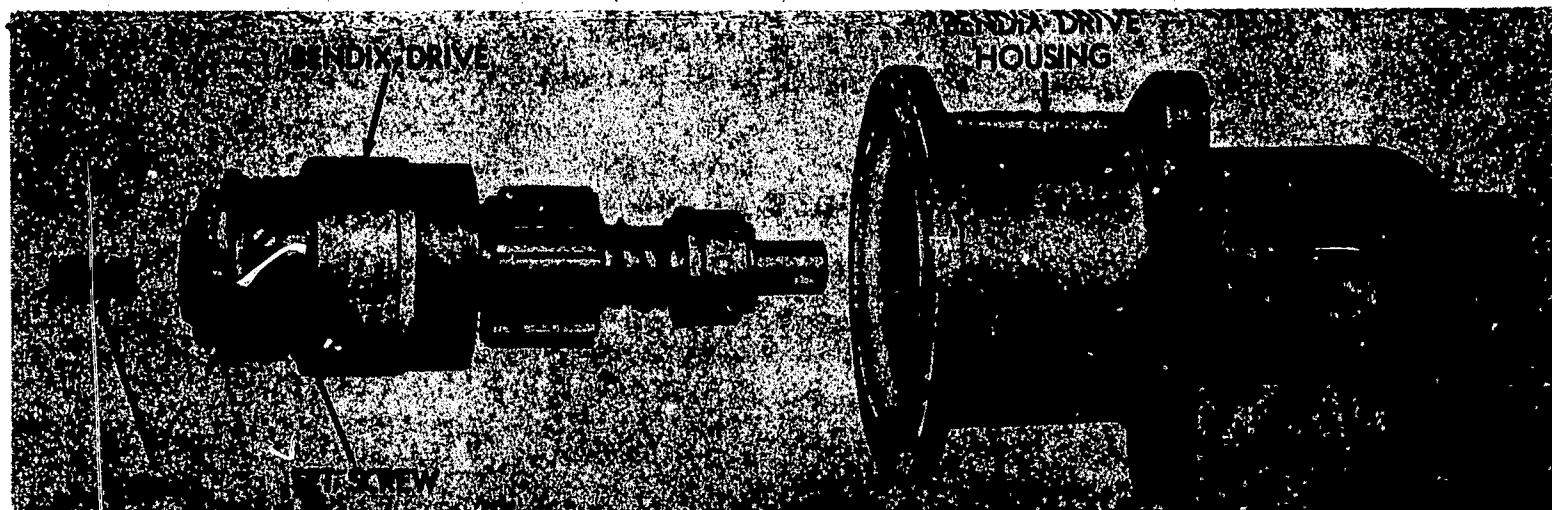

Fig. 7 Bendix drive and housing.
**BENDIX FRICTION CLUTCH TYPE DRIVE --** The Bendix drive is a device that accomplishes meshing and de-meshing of the drive pinion with the flywheel. It relies upon the principle of inertia to cause the pinion to mesh. Figure 7 shows the Bendix drive and housing of the heavy duty model.